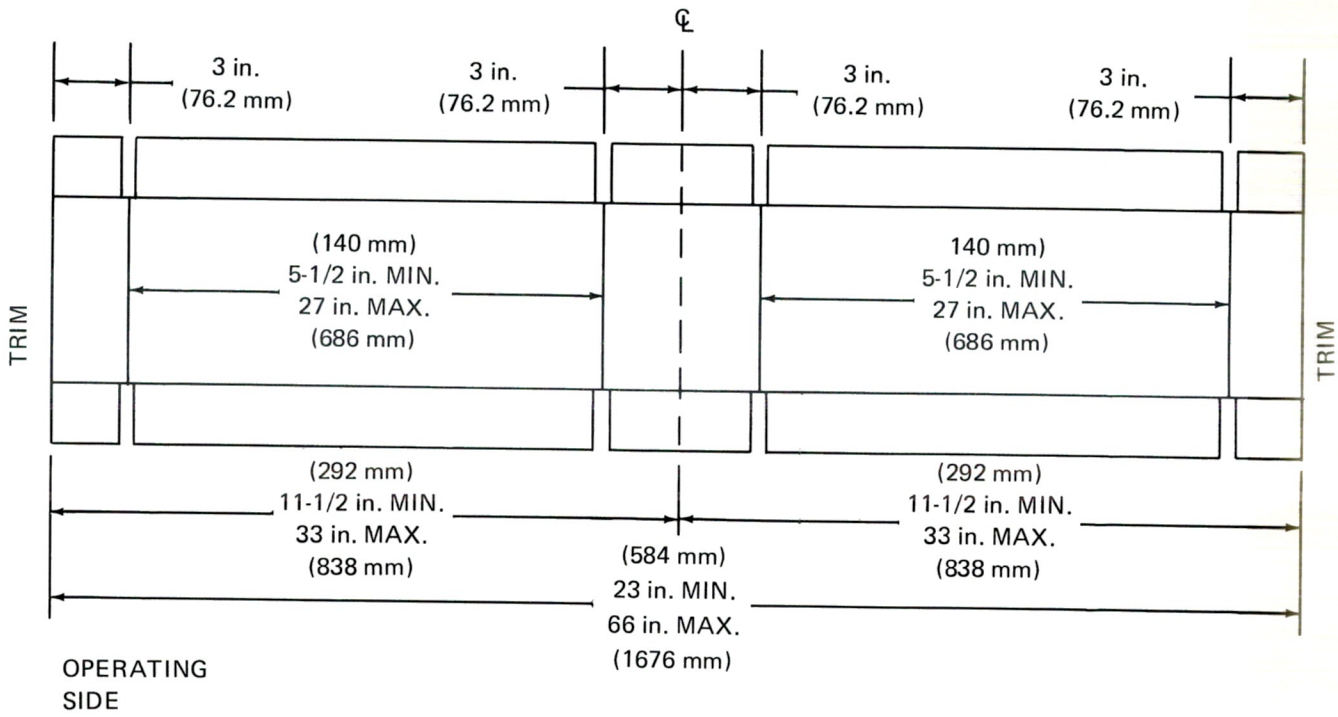

FIGURE 9-5. 3 in. (76.2 mm) END PANEL WITH TRIM
a. 3 in. (76.2 mm) End Panel With Trim (Figure 9-5)